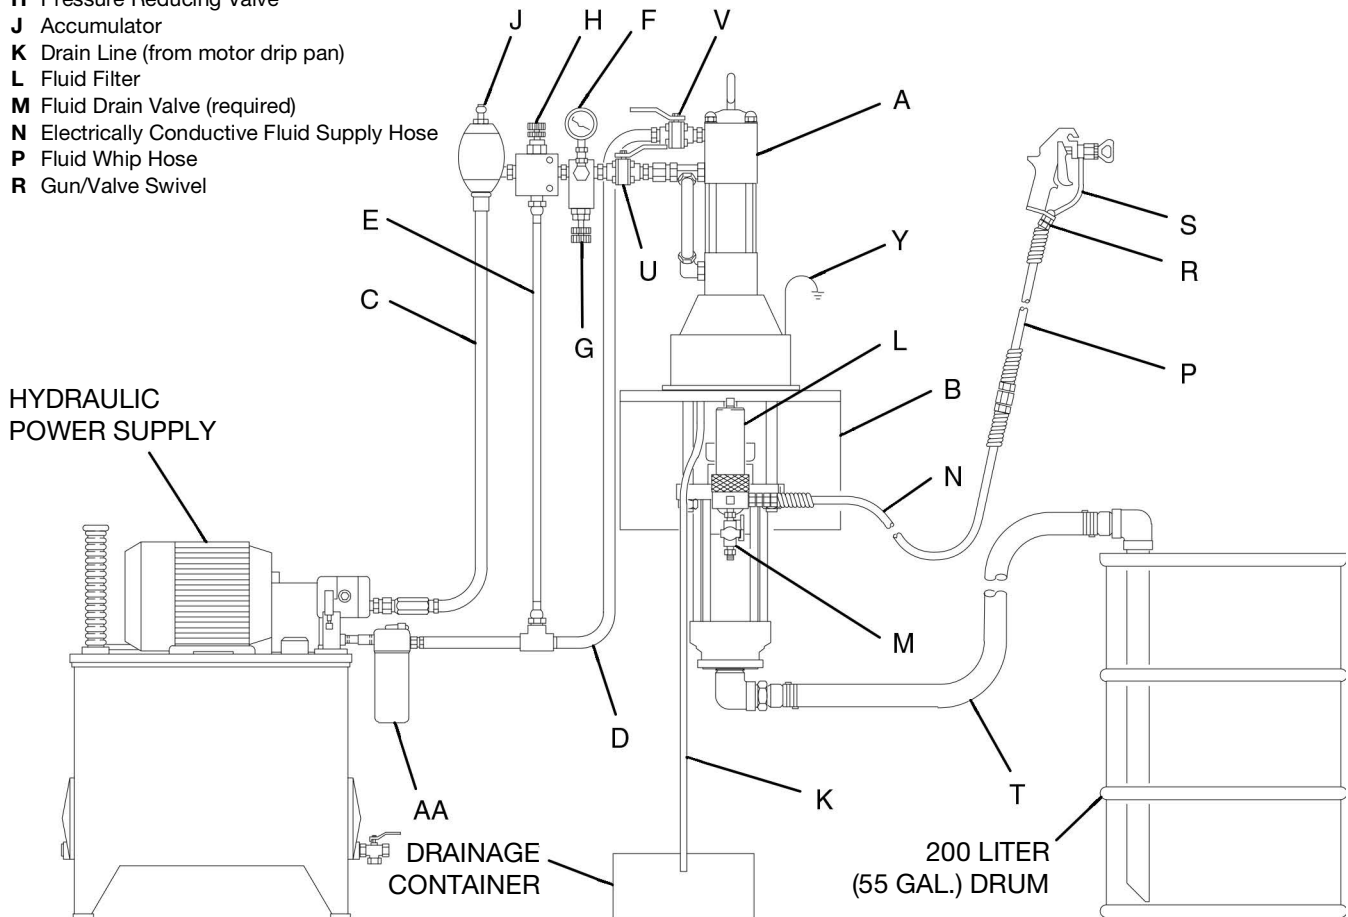

Fig. 5
Fig. 5 is only a guide for selecting and installing system components and accessories. Contact your Graco distributor for assistance in designing a system to suit your particular needs.
Mount the pump (A) to suit the type of installation planned. Fig. 5 illustrates a wall-mounted system. Pump dimensions and the mounting hole layout are shown on pages 40 and 41.
On the hydraulic supply line (C), install the following accessories in the order shown in Fig. 5, using adapters as necessary:
- **A shutoff valve (U)** isolates the pump for service.
- **A fluid pressure gauge (F)** to monitor hydraulic oil pressure to the motor and to avoid overpressurizing the motor or displacement pump, and a **pressure- and temperature-compensated flow control valve (G)** to prevent the motor from running too fast and possibly damaging itself.
- **A pressure reducing valve (H), with a drain line (E)** run directly to the hydraulic return line (D).
- **An accumulator (J)** to reduce the hammering effect caused by the motor reversing direction.
On the hydraulic return line (D), install the following accessories in the order shown in Fig. 5, using adapters as necessary:
- **A shutoff valve (V)** isolates the pump for service.
- **A filter (AA)** of 10 micron size.
Install the following accessories in the positions shown in Fig. 5, using adapters as necessary:
1. Refer to Fig. 5 on page 11. Connect the suction kit (T) to the pump's fluid inlet, and place the tube into the fluid supply.
3. Make certain that the supply line shutoff valve (U) and the return line shutoff valve (V) are closed.
5. Hold a metal part of the gun/valve (S) firmly to the side of a grounded metal pail and hold the trigger open.
6. Open the return line shutoff valve (V) *first*, then slowly open the supply line shutoff valve (U).